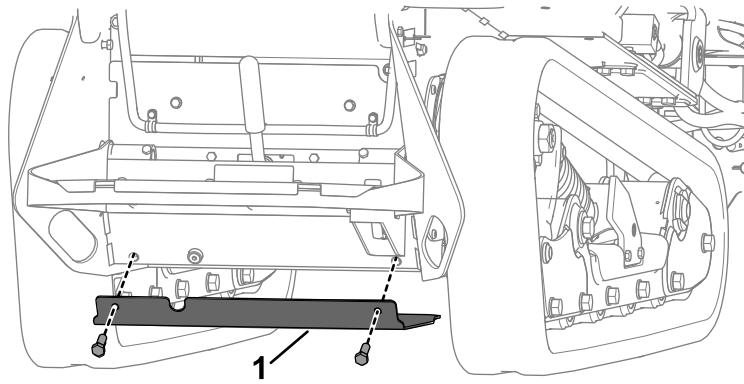

Figure 13
- 10. Remove the bottom cover from the traction unit by removing the 2 bolts holding it in place (Figure 13).